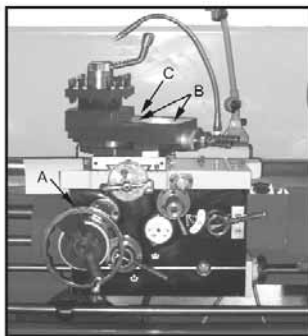

Fig. 7
- Saddle**: Lubricate ball oiler (A, Fig. 7) on handwheel shaft with Mobil DTE® Oil Heavy Medium oil daily.
- Compound Rest**: Lubricate four ball oilers (B, Fig. 7) on top of compound slide with Mobil DTE® Oil Heavy Medium oil daily.
- Cross Slide**: Lubricate one ball oiler (C, Fig. 7) with Mobil DTE® Oil Heavy Medium oil daily.